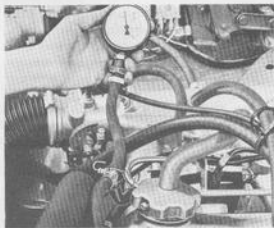

Fig. 2-189. Connecting pressure gauge
1. Remove the hose from the fuel pump at the distributor pipe and connect up the pressure gauge, see Fig. 2-189.